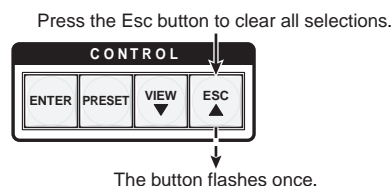

Figure 3-23 — Clear all selections
1. Press and release the Esc button (figure 3-23).